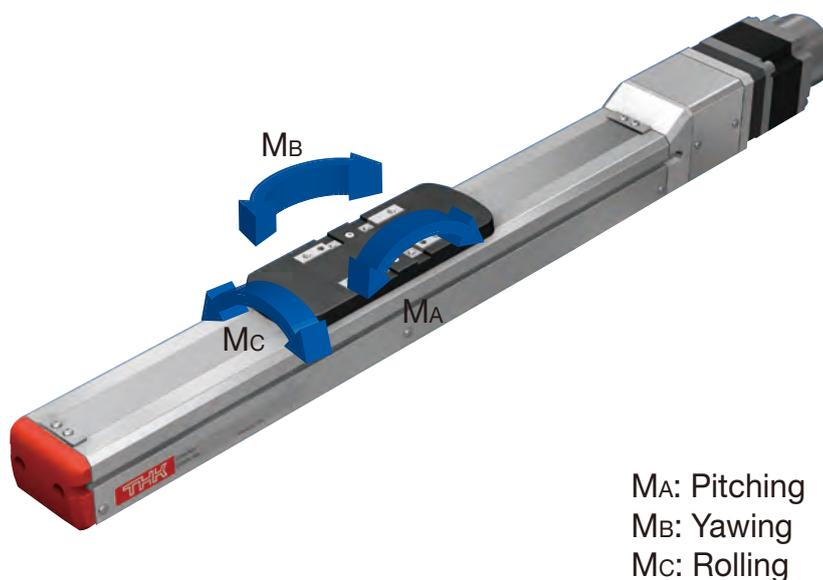

Fig. 4 Load moment direction
- Static permissible moment is shown in Table 8. For the direction of the moment, see Fig. 4. (The static moment is the value when a load is applied only to one direction.)